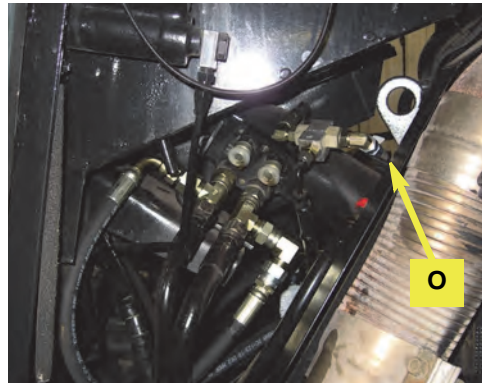

Figure 5c: Installed load sense hose
- c. Connect the load sense hose (**P**) from the **LS** port on the automated steering block to the open end of the load sense shuttle (Figure 5c).